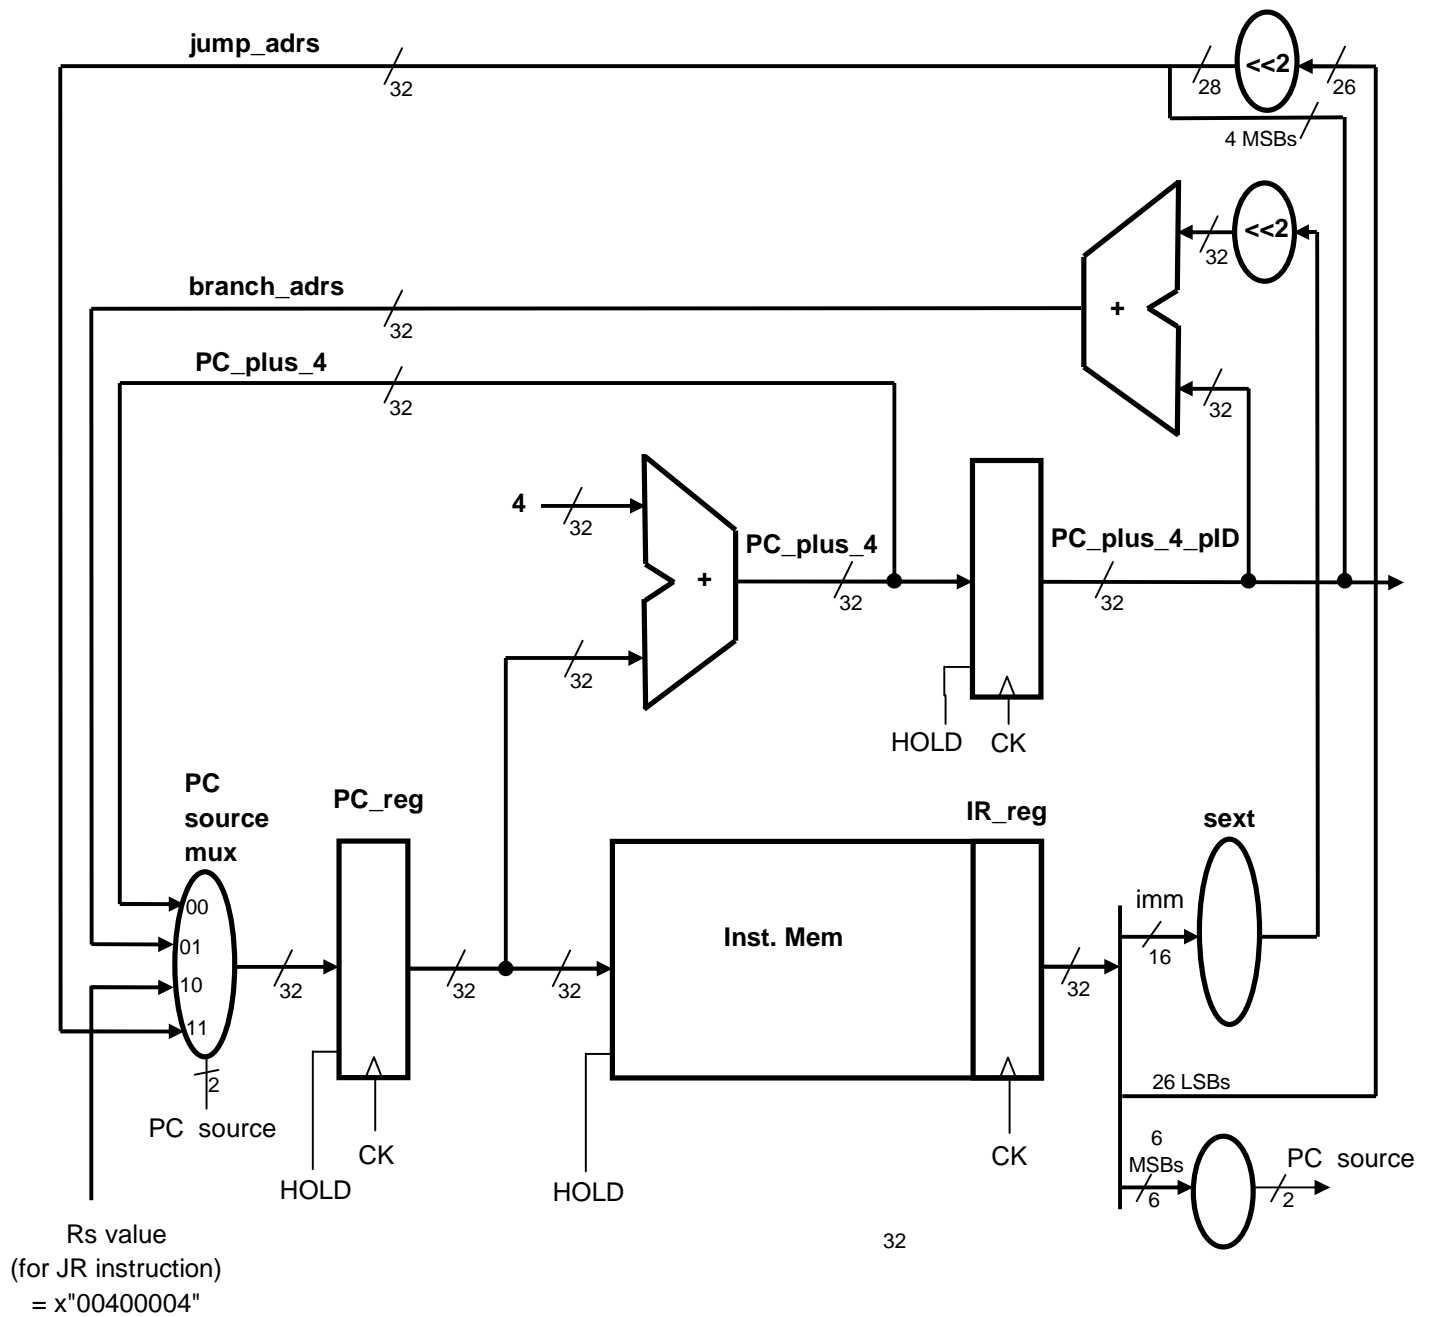

Fig. 1 – The Fetch Unit
The Fetch Unit's main components are the PC register (PC_reg) and Instruction Memory (IMem). The PC_reg is a 32 bit register that advances by 4 in every clock. Thus we should have also a 32 bit Adder that adds 4 to the current PC_reg value. In order to jump or branch, we need to input the jump address or branch address to the PC register. Thus, we have a multiplexer at the input of the PC register. This is depicted in Fig.1 above
The light blue part is the part you design. It is called the **Fetch_Unit.vhd**. Actually, you start with a simulation version, so it should be called the **Fetch_Unit_4sim.vhd**. Your design includes all signals, registers and logic we saw in Figure 1 except the IMem and IR itself and except the clock divider. These are implemented for you in advance in two components. The first is called **Clock_driver.vhd** and the second is a component called **Fetch_Unit_Host_Intf_4sim**.
- 1) **Fetch_Unit_4sim.vhd** - your design implementing figure 1
You now have to write the equations describing the logic circuitry of Figure 1. For that we also listed the required functionality inside the “empty” file – a remarks.
- 2) **Fetch_Unit.vhd** - your design implementing figure 1.